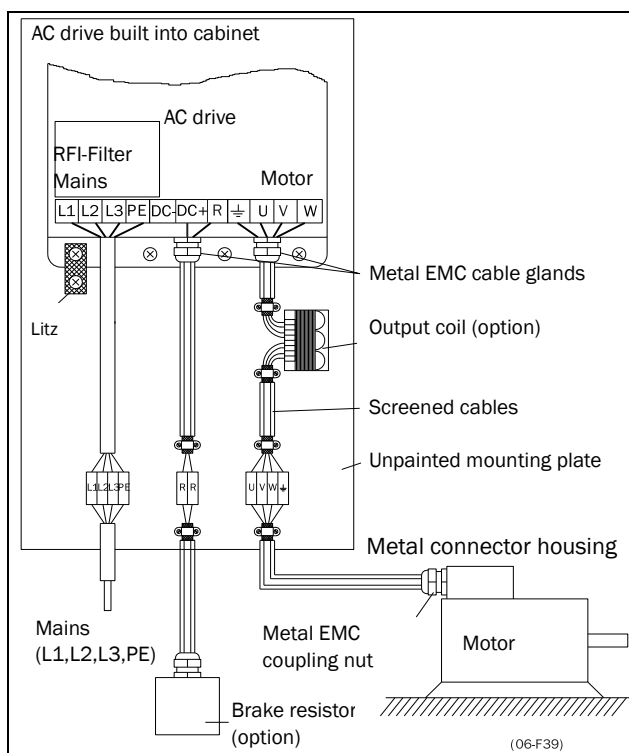

Fig. 37 AC drive in a cabinet on a mounting plate
- The litz ground connection see fig. 37, is only necessary if the mounting plate is painted. All the AC drives have an unpainted back side and are therefore suitable for mounting on an unpainted mounting plate.
- The litz ground connection, see fig. 37, is only necessary if the mounting plate is painted. All the AC drives have an unpainted back side and are therefore suitable for mounting on an unpainted mounting plate.
If the motor cables are to be interrupted by maintenance switches, output coils, etc., it is necessary that the screening is continued by using metal housing, metal mounting plates, etc. as shown in the Fig. 37.
- If the AC drive is mounted in a standard cabinet, the internal wiring must comply with the EMC standard. Fig. 37 shows an example of a AC drive built into a cabinet.